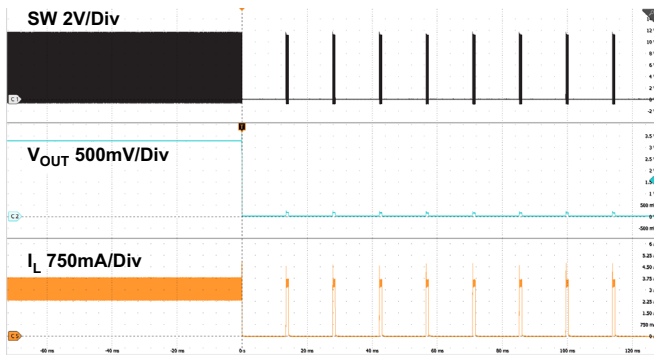

Figure 34. Hiccup after Output Short-Circuit
RAA211230 also has a VOUT undervoltage (UV) protection. The internal undervoltage comparator compares the FB pin voltage to 65% of the reference voltage. When LSOC is detected and this voltage drops below 65% of nominal (because of a drop in VOUT to below 65% of its set point), the regulator stops switching and engages Hiccup mode operation at an interval of 13ms (see Figure 34).